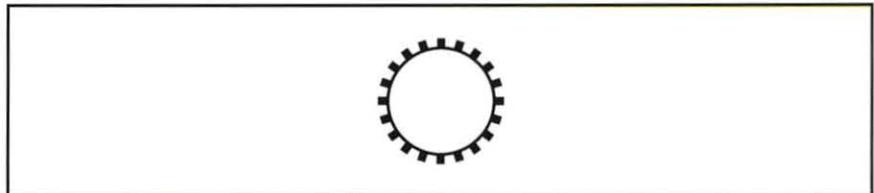

Figure 22. Instrument Tag
3. Determine the type of device indicated by the tag in figure 22.